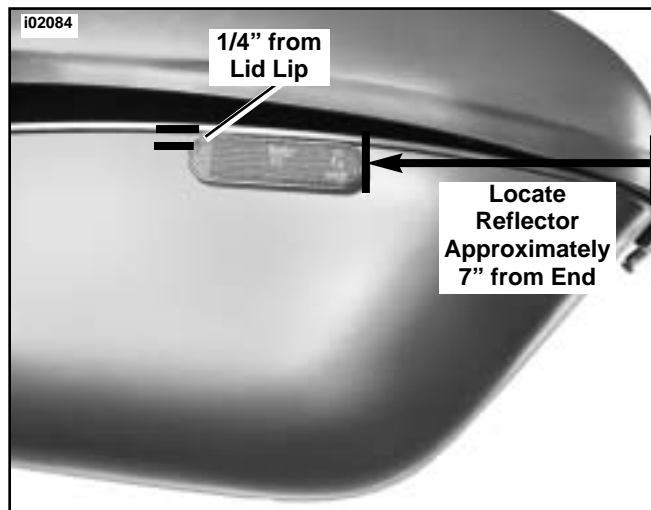

Figure 11. Install Reflectors to Saddlebags
26. See Figure 11. Locate area approximately 7 inches (178 mm) from front and 1/4 inch (6 mm) from lid lip of lower section of saddlebag.